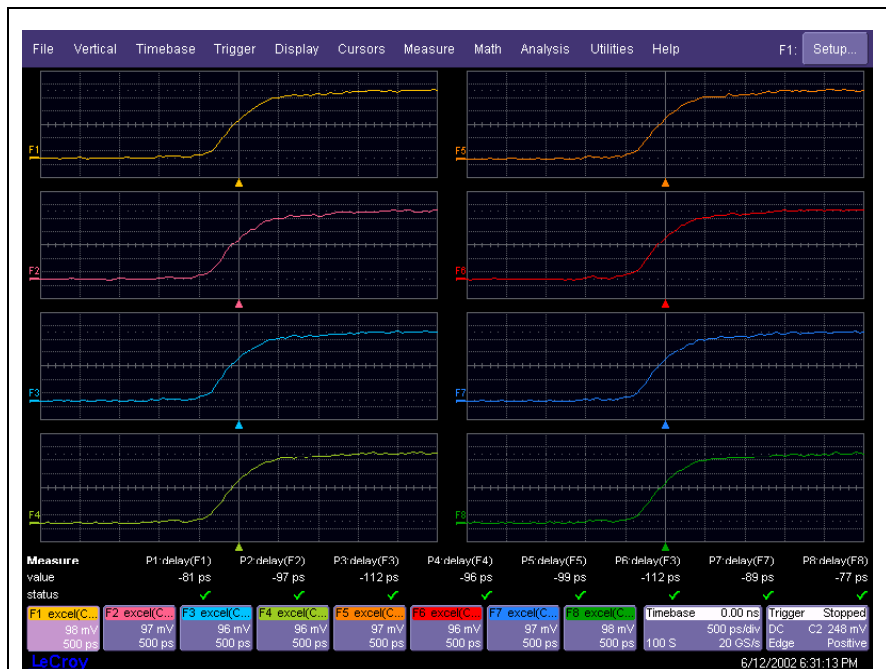

Figure 4 – Traces had been recalled into F1 through F8
- 5) All the column data is now imported to scope and displayed! Of course you can display each trace in a separate grid. (Figure 4)